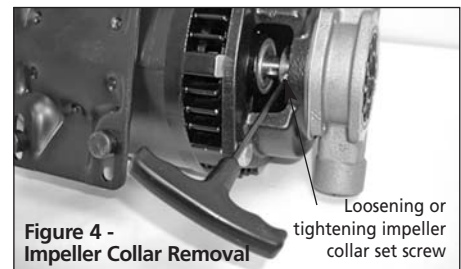
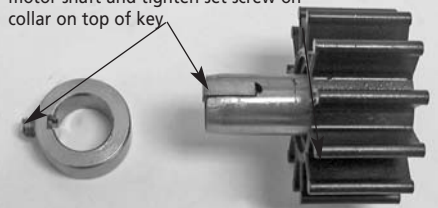

Figure 4 - Impeller Collar Removal
Figure 6 - Impeller Key Installation
- b. Orient the pump shaft so the set screw on the collar (Ref. No. 20) is visible through the bottom of the motor adapter (Ref. No. 17). Loosen set screw on collar (Ref. No. 20) (See Figure 4).
- b. Orient the pump and motor shaft key slots so the key slots are visible from bottom of motor adapter (Ref. No. 17). Place key (Ref. No. 14) into key slot of pump and motor shaft. Place collar set screw over key but do not tighten. Tightening the set screw is the last step of impeller assembly (See Figure 6).
- d. Tightening the collar set screw is the last step of impeller assembly (See Figure 6). Ensure collar set screw tightens on the key and not against impeller sleeve as burrs may occur on the sleeve resulting in future disassembly problems (See Figure 4).